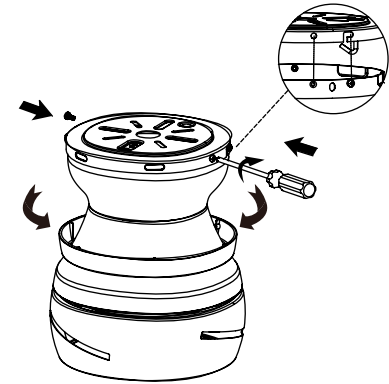

Fig. 11
Step 1. Remove the motor assembly from the hook of the ceiling mounting bracket and push up the motor assembly until the two screws on the ceiling mounting bracket are engaged with the slot holes on the canopy of the motor assembly. Rotate the motor assembly slightly until the two screw heads are in the slot holes. Install the two screws previously removed and tighten all four screws. (Fig. 11)